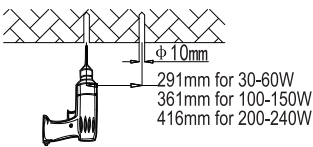

Figure 1-2
- 1.Use a chalk or sharp tool to mark signs on the top of the ceiling,then drill holes on the signs by electric drill (Figure 1-2).